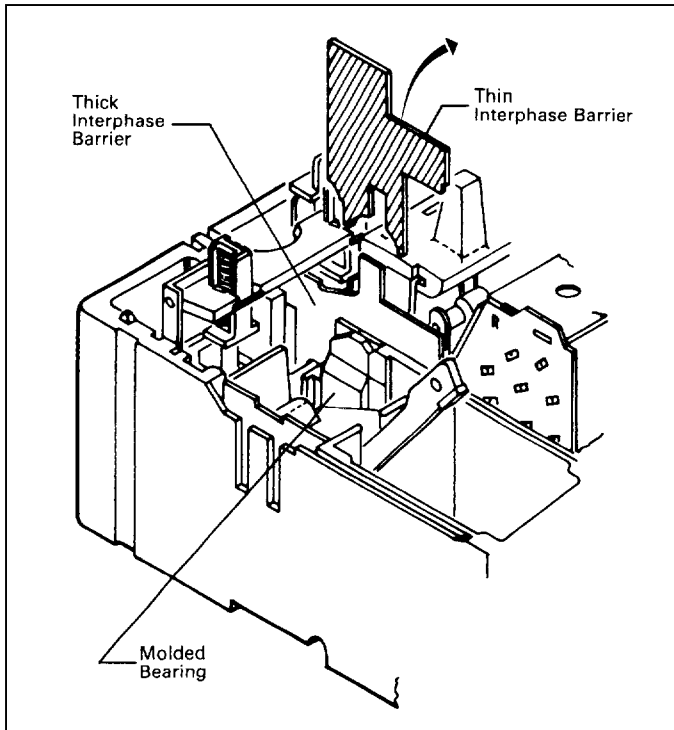

Fig. 2-2. Removal of Thin Interphase Barrier
- 2-5. Remove thin interphase barrier positioned between molded bearing and thick interphase barrier (Fig. 2-2).
**Note:** When installing replacement interphase barrier after the accessory(ies) make sure the thick interphase barrier remains in position in the HMCP base mounting slots and rests on the molded crossbar. (See Fig. 2-2.)